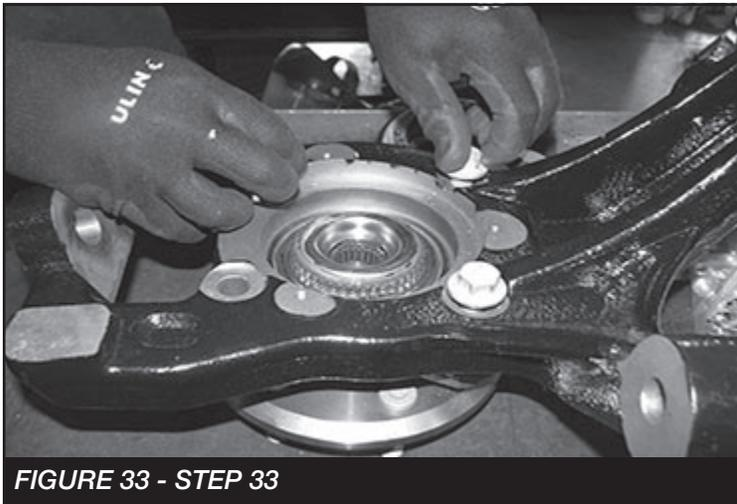

FIGURE 33 - STEP 33
33. Locate the Fabtech driver side spindle (FT30617D) and install the factory hub. Torque the four 14mm bolts to 160 ft.- lbs. **SEE FIGURE 33**